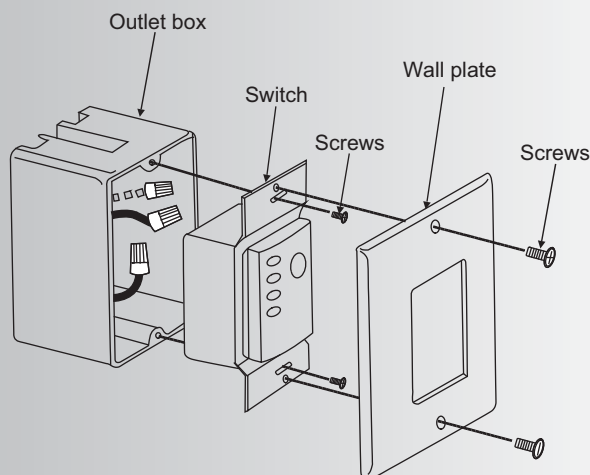

Fig. 26
Step 2. Install the wall plate on the existing wall outlet box using the screws provided. (Fig. 26)